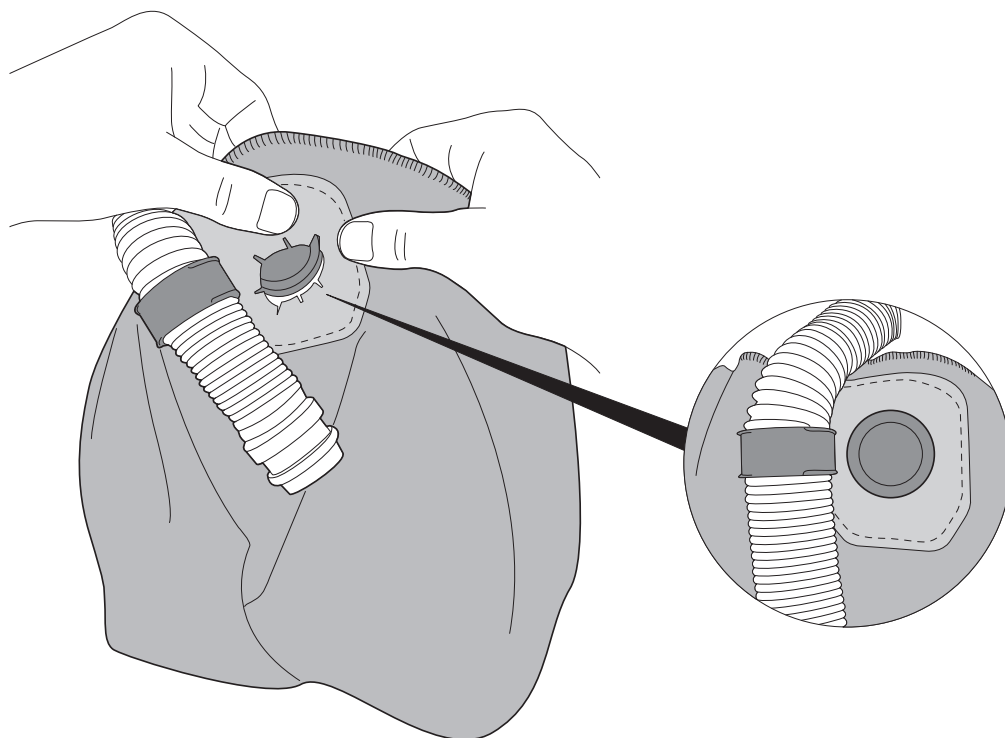

Fig. 29e
- d. Push the head suspension ratchet knob through the round hole at the back of the shroud (Fig. 29e).